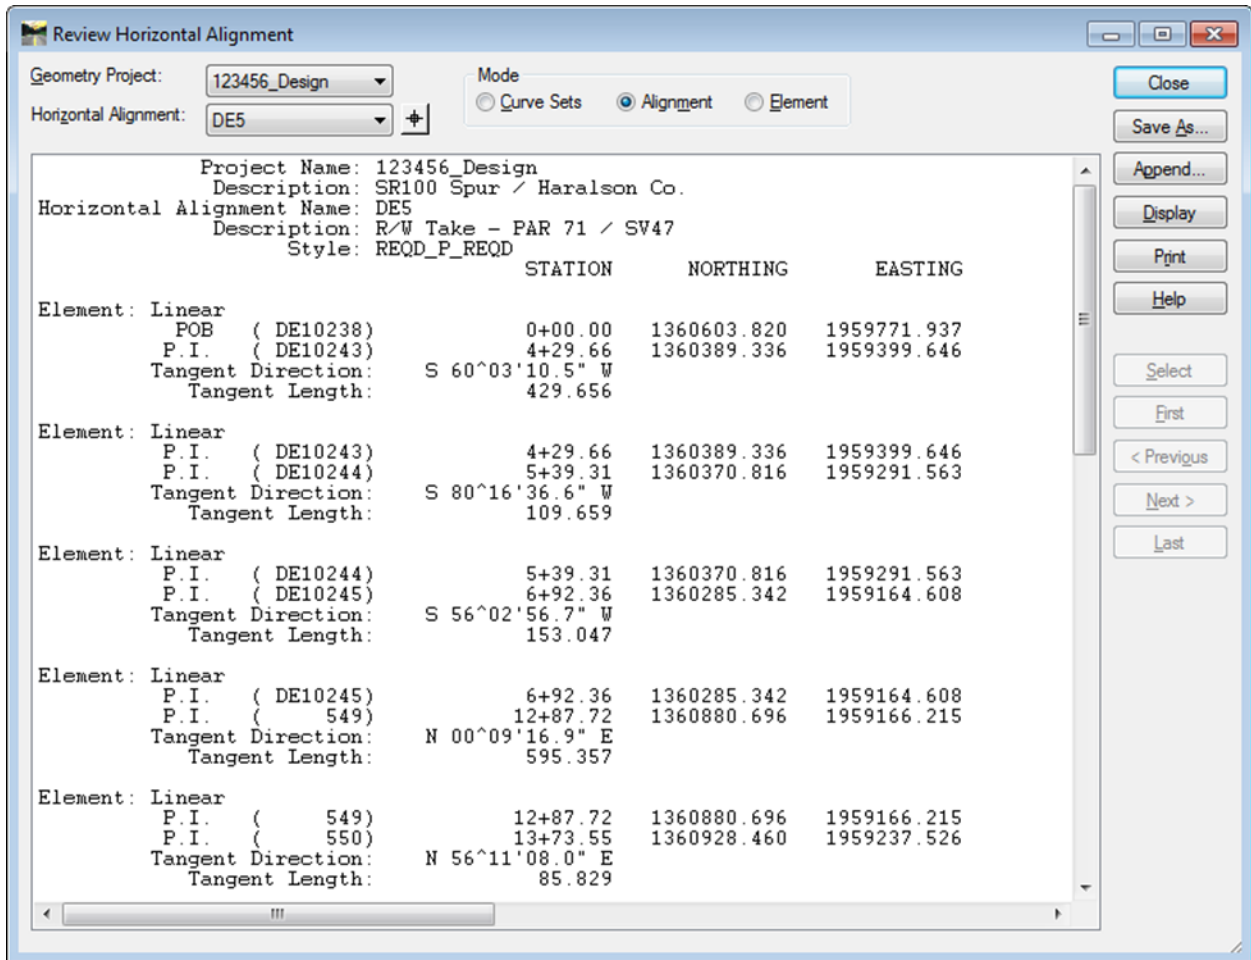

Figure 12-1 Review Horizontal Alignment
- The user may also print the description by using the Print button on the **Review Horizontal Alignment** dialog. (See *Figure 12-1*).